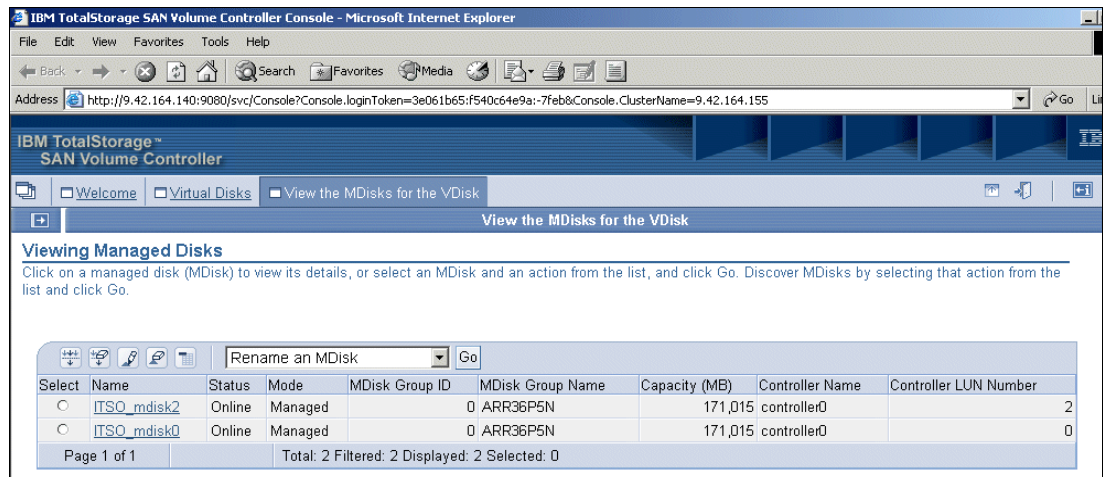

Figure 9-75 Showing mDisks used by a vDisk
2. You see a subset (specific to the vDisk you chose in the previous step) of the Viewing Managed Disks panel (Figure 9-75).